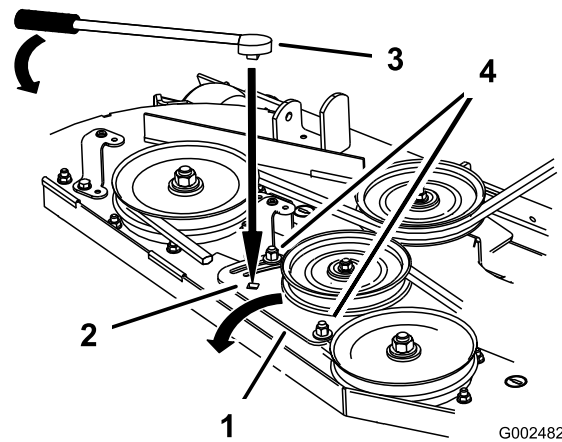

Figure 53
5. If adjustment is required, loosen the idler plate to adjust it (Figure 53).
6. Insert a ratchet or breaker bar into the square hole in the idler plate to adjust the tension (Figure 53).
7. To increase belt tension, rotate the ratchet or breaker bar to move the fixed idler until you feel increased resistance and the spring-loaded idler pulley stops moving (Figure 53).
8. While holding the belt tension, tighten the idler plate bolts that secure the idler plate (Figure 53).
10. Adjust the belt tension and the idler plate, if necessary, and tighten all hardware securely (Figure 53).